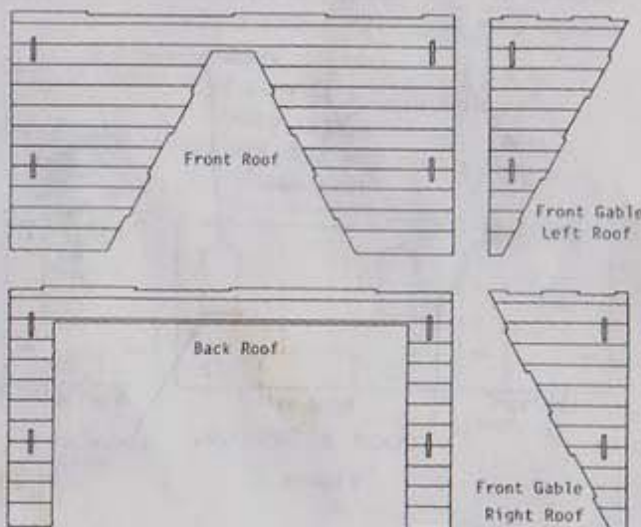

Figure 12
10. Locate Front Roof, Front Gable Left and Right Roofs, and Back Roof (LF-3,4,6,7). Draw lines across the roofs where the score marks have been made. See Figure 12.